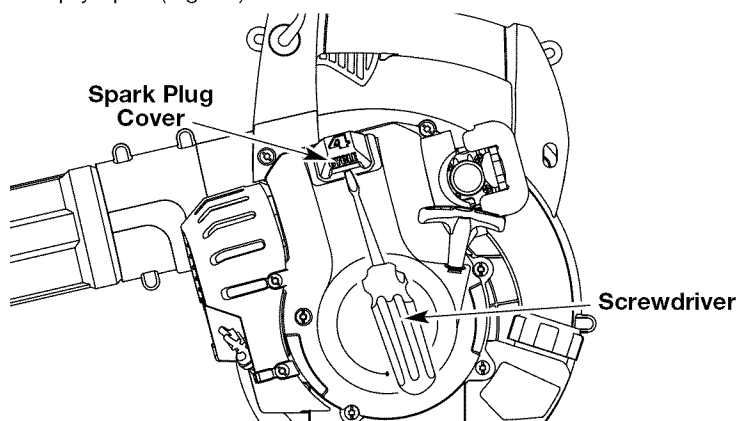

Fig. 32
2. Insert a flat blade screwdriver under the spark plug cover and pry open (Fig. 32).